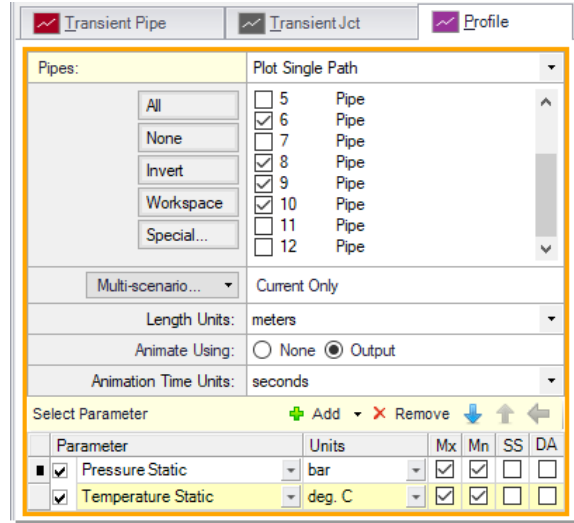

Figure 9: Graph Parameters for bypass line profile
2. From the Graph Control tab on the Quick Access Panel, select the Profile tab (Figure 9)